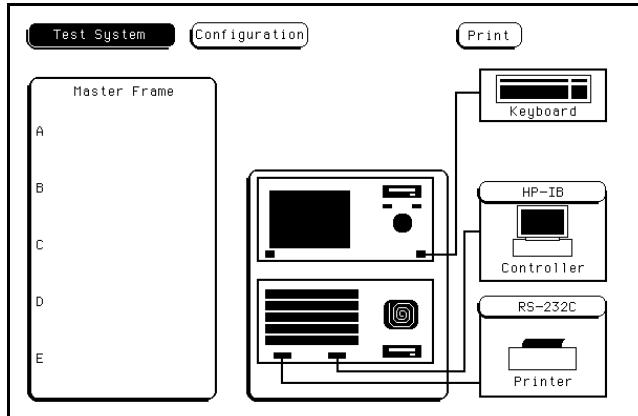

Figure 4-4. Test System Configuration
4. After the Test System has been loaded from the disk, the Test Configuration will be displayed. See figure 4-4.